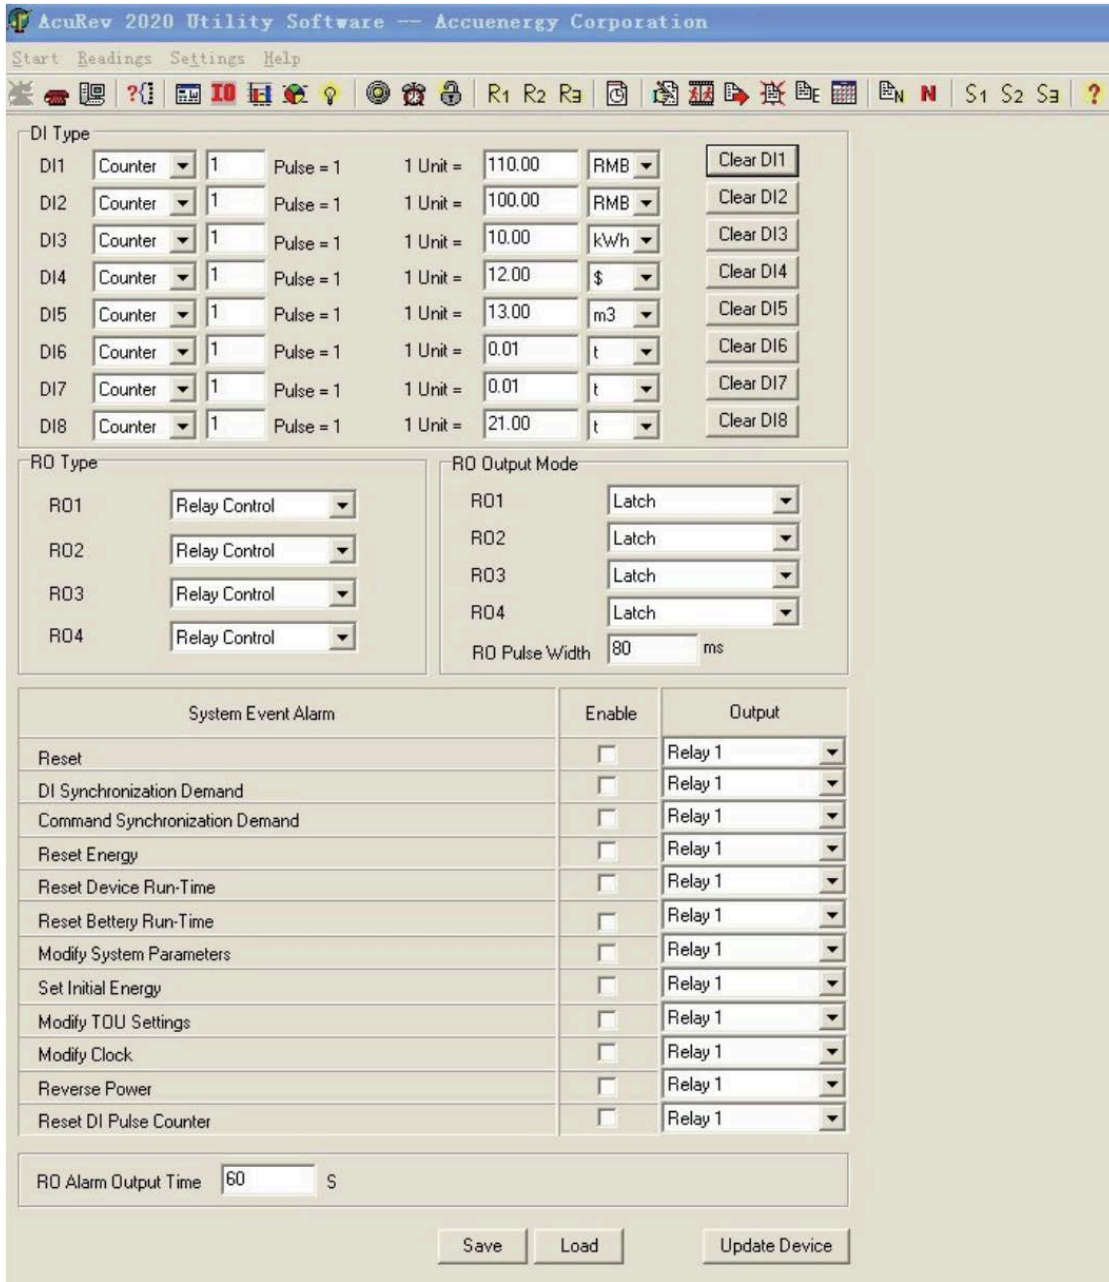

Figure 4-6 DI/RO and System Event alarming setup
As Figure 4-5 shows, AcuRev 2000 has 4 Relay Outputs (RO), 8 Digital Inputs (DO). Please refer to Figure 4-6 for DI/RO related settings.
When DI type is set as Pulse Counter, it counts the input pulses. The Pulse Counter settings include Pulse Constant (how many pulses equals one count), Category and Unit, Value 83 Figure 4-6 DI/RO and System Event alarming setup (Category multiplied with the count number). The display panel displays the number corresponding to the pulse, as well as the calculated value.